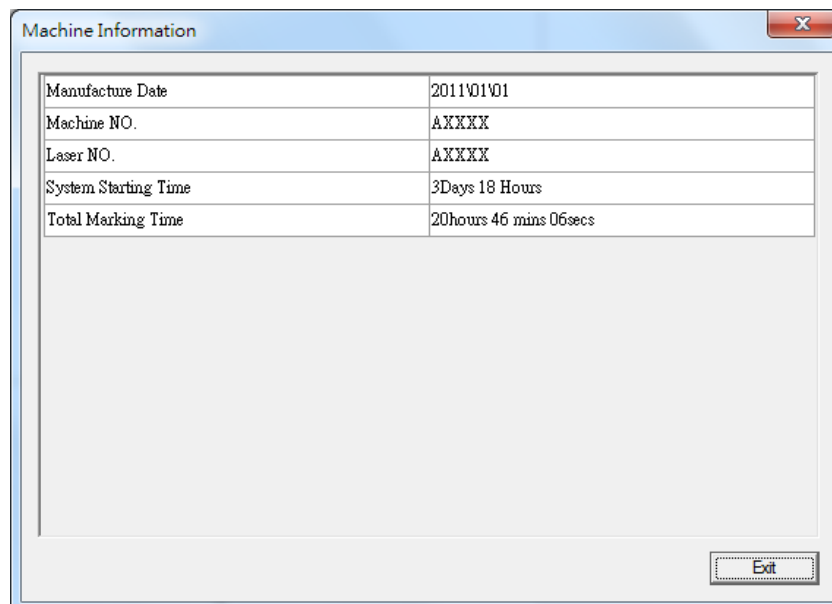

Fig. 1.9.02
**Machine Information** Show the information of the laser machine, see Fig.1.9.02.